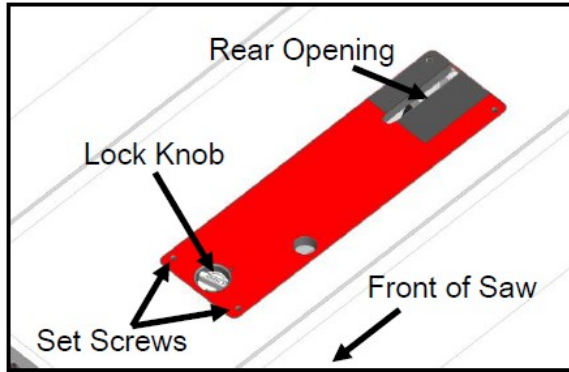

Figure 19
- 3.) Put the zero clearance table insert into place. See Figure 19 below.
4.) Adjust the zero clearance table insert by loosening or tightening the set screws located at the corners of the insert using a 2.5mm hex wrench to raise and lower the insert until it is flush with the table top. Once zero clearance is flush with the table top turn the locking knob located at the front of the insert to lock it into position. See Figure 19 above.